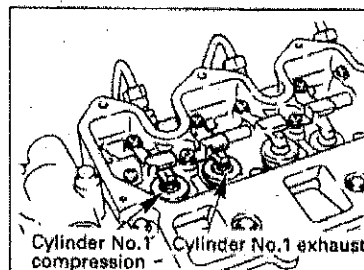

Fig 27 Exhaust and compression strokes
(2) Remove the cylinder head cover and check to see if cylinder No. 1 is at TDC in the compression stroke or at TDC in the exhaust stroke. When the intake and exhaust valves are closed, the cylinder is at TDC in the compression stroke, and when only the exhaust valve is open, it is at TDC in the exhaust stroke (Fig 27).